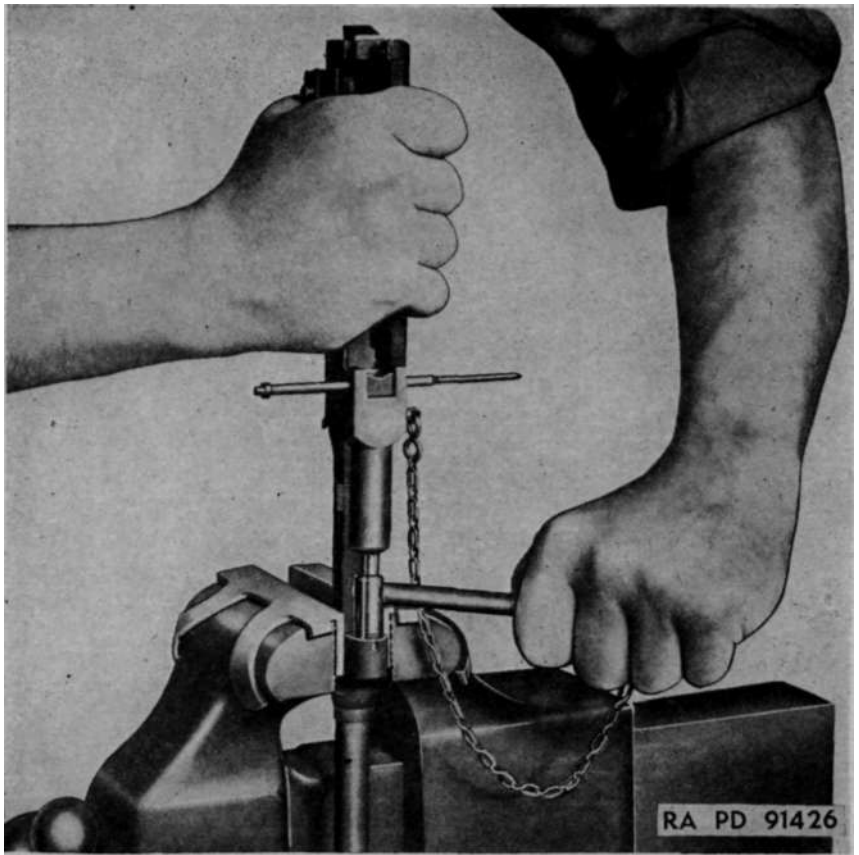

Figure 46. Removing piston nut from gas cylinder.
b. REMOVING GAS PISTON AND PISTON NUT. (1) The gas piston and piston nut are the only removable parts of the gas cylinder group. To remove piston, clamp barrel firmly in a vise with protected jaws and, using the gas piston nut removing tool M5, or gas piston holder and spanner wrench, unscrew the piston nut from gas cylinder. (See fig. 46.) Be careful not to bur or twist prongs on nut when removing (nut is staked in place) or piston will not move freely. (If piston nut or piston is tight, proceed as explained in par. 52a. Remove nut, elevate muzzle of barrel, and slide piston out of gas cylinder. If piston will not slide out, tap cylinder lightly with wooden block.
(2) The gas cylinder may be integral with the barrel, or swaged on the barrel at manufacture. Do not remove the gas cylinder. If gas cylinder is unserviceable, send weapon to base shop for replacement of barrel assembly.
(4) Inspect operating slide spring housing groove or spring well ("alternate" design receiver) for rust and foreign matter. Check both spring housing retainer hole in rear end of bed groove and spring housing alignment protrusion for burs.
(5) Inspect M1 and M2 receivers for run-out (drill breaking through to the bottom and right-hand side of the receiver). Receivers have been accepted in which this run-out occurred if the break-through was properly cleaned by a $1/8$ to $3/16$ inch diameter end milling operation to eliminate all feather edges. All such cleaning operations must take place at a point well behind the right locking lug surface (break-through closer than 3 inches from the front of the receiver is not permitted).
a. FROZEN PISTON NUT OR PISTON. (1) *Piston nut*. Due to heat of barrel, and hot gas entering the gas cylinder, the piston nut may become "frozen" in the gas cylinder, making removal difficult. If nut does not loosen readily, clamp gas cylinder in a jaw-protected vise so that cylinder is firmly held with the piston nut pointing up. Then unscrew nut counterclockwise, using cylinder holder and spanner wrench (41-H-2373) (fig. 46), exercising care to hold the tool in close engagement with the nut when turning. If tool is held loosely and thus allowed to slip out of engagement repeatedly, the lugs on the nut or tool will become worn and make removal difficult. If nut will not loosen as above, soak with preservative lubricating oil (light) for about an hour to loosen binding. Oil can be dropped through gas port drill hole in gas cylinder.